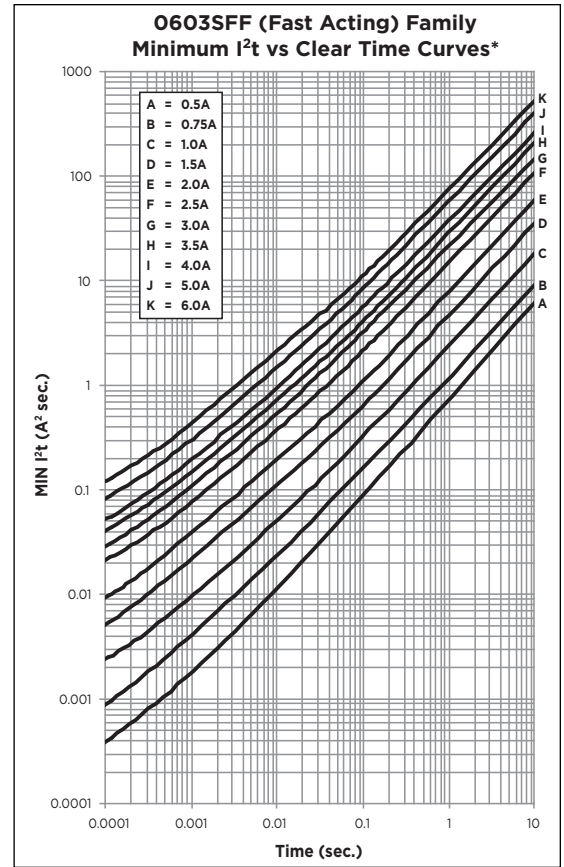

Figure 5. O603SFF (Fast Acting) Family Minimum I^2t vs Clear Time Curves
- Step 6—Select Fuse Current Rating for Pulse Environment—Determine which fuse has an I^2t rating greater than I^2t_{dpulse} at .005sec. The minimum I^2t versus clear time can be found in Figure 5 for Fast Acting Fuses and Figure 6 for Slow Blow Fuses. (Larger charts are available in Appendices A and C).
Using Figure 5, the Fast Acting O603SFF Family Minimum I^2t vs Clear Time curves, it can be determined that Curve H has an I^2t value greater than 0.365 A^2sec at .005sec. This means that a 3.5A fuse, part number O603SFF350F/32, would meet the pulse and cycle derating requirements for this application example. Refer to Appendix E for part number selection.